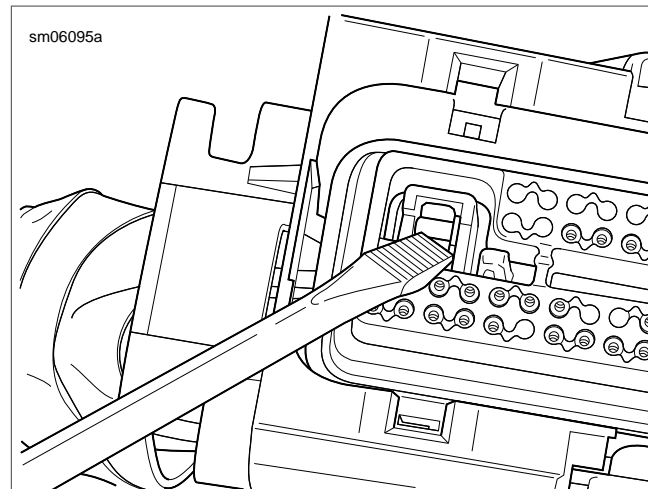

Figure A-28. Remove ECM Ground Terminal
3. See Figure A-28. Using a thin blade screwdriver, release latch and pull ground wire, wire seal and terminal from cover side of housing.